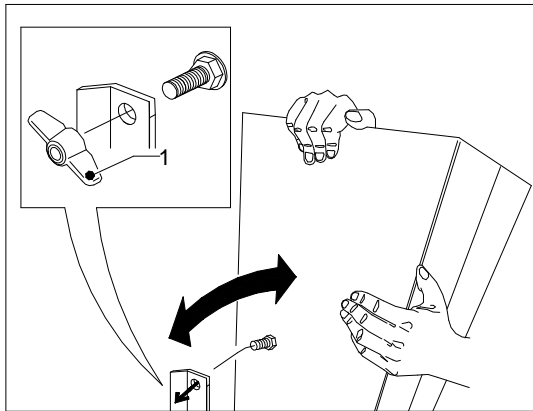

Fig. 16
- tilt the side hopper inwards (Fig. 16) and tighten the wing nut 1 to lock it in position.